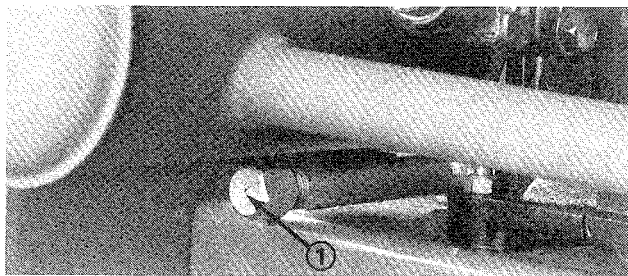

Figure 20
- Turn engine off and place drain pan under frame, below drain plug (Fig. 20). Remove drain plug and allow all oil to flow into drain pan. Install drain plug after oil stops flowing.